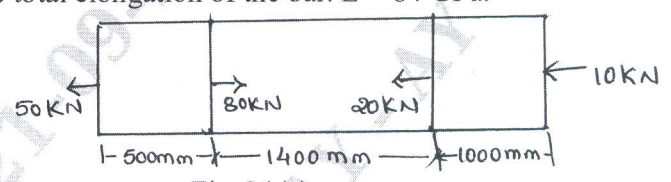

Fig.Q1(c)
c. A brass bar having cross-sectional area 300 mm^2 is subjected to axial forces as shown in Fig.Q1(c). Find the total elongation of the bar. $E = 84 \text{ GPa}$.